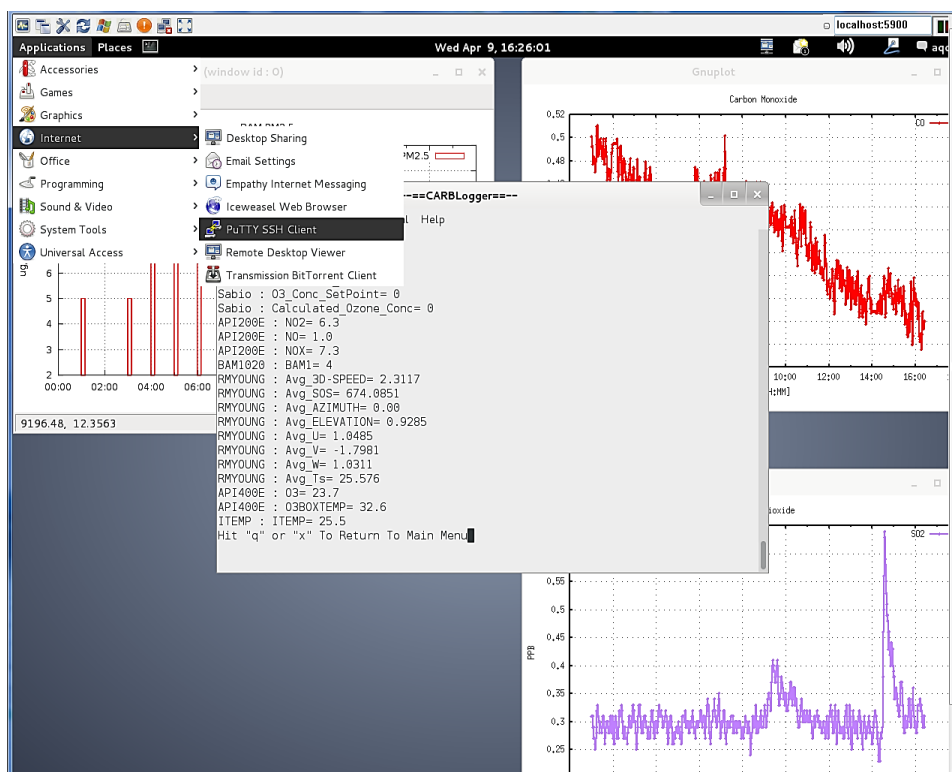

Figure C1: Locating the Putty SSH Client
- From the Gnome/CARBLogger desktop choose **Applications/Internet/Putty SSH Client**. Refer to Figure C1 below.